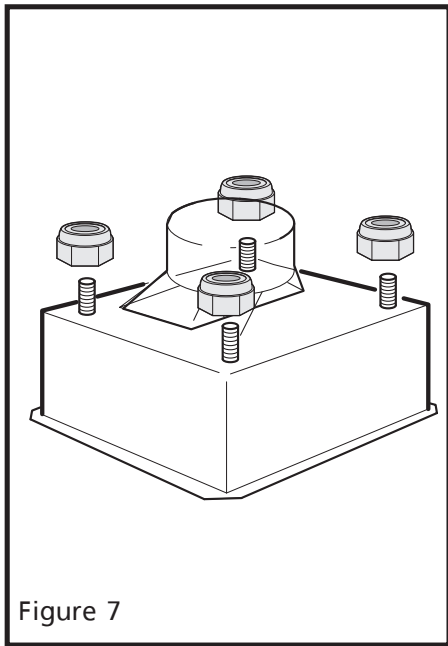

Figure 7
9. Set chimney mounting structure on top of hood canopy. Attach nuts loosely. See Figure 7 and 8.